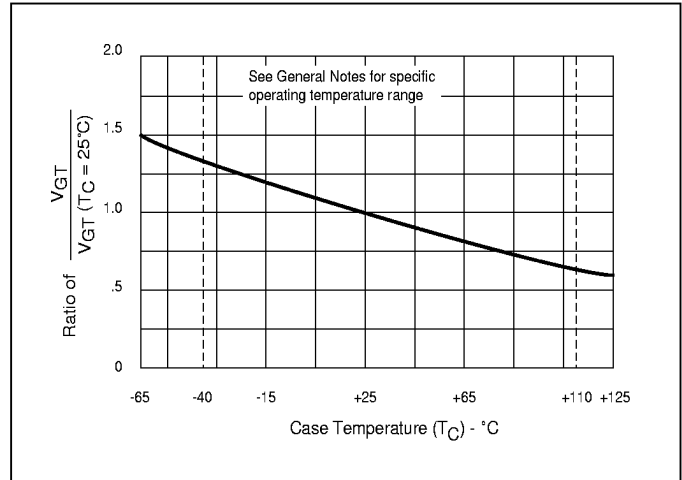

Figure 5.12 Normalized DC Gate-Trigger Voltage vs Case Temperature
- (4) See Figure 5.12 for  $V_{GT}$  vs  $T_C$ .